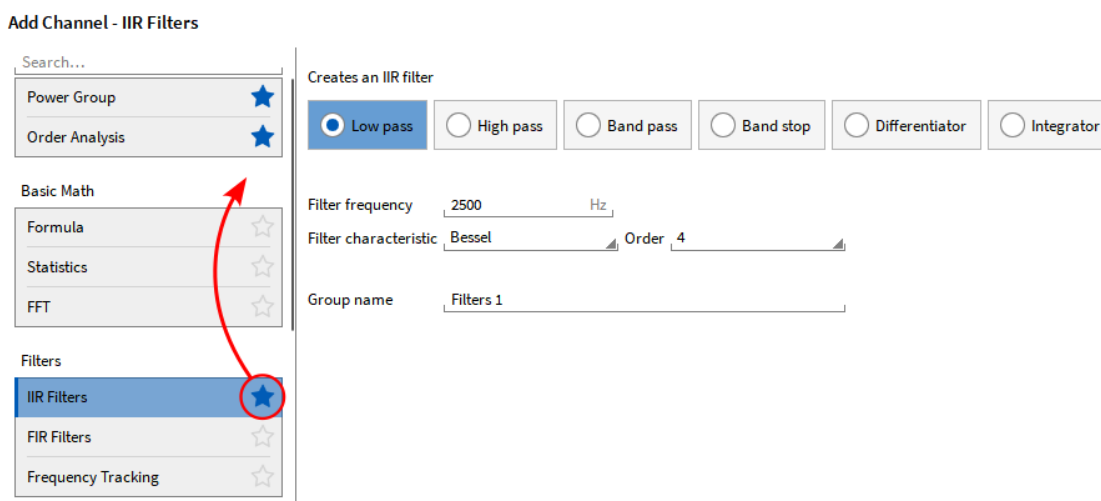

Fig. 7.47: Channel setup of a TRION3-1820-MULTI channel
All channel settings (except the sample rate and the bit resolution) can also be changed in the individual Channel Setup (see Fig. 7.47) which can be accessed via push button ⑪ (see Fig. 7.2 or Table 7.1).